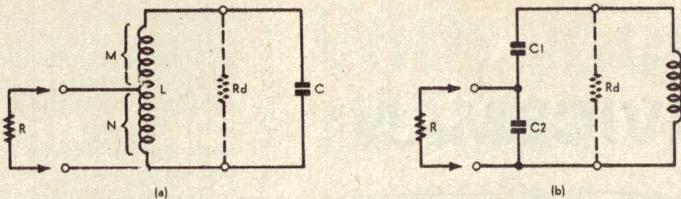

Figure 3: A comparison of the (a) inductive, and (b) capacitive tapping methods.
Probably the reader will be more familiar with the tapped inductor method of transforming impedance, as shown in figure 3(a). This method is frequently used where a relatively low impedance circuit has to be coupled into the resonant circuit without causing it undue disturbance or damping its resonance behaviour. The position of the tap on the inductor is chosen to provide the desired impedance step-up ratio. The lower the position of the tap, the greater the extent to which the impedance of the circuit connected to the terminals is stepped up, as far as the resonant circuit is concerned.
It turns out that the impedance transforming ratio obtained with the capacitive divider system follows a similar "squares" relationship to that obtained with the inductive divider. Thus in figure 3(b), the effective resistance R_d connected across the resonant circuit is related to the actual resistance R connected across the terminals by the equation:
capacitive divider works in both directions. It can step down impedance as well as stepping it up. Thus if an actual resistance R_d were to be connected right across the inductor L in figure 3(b), instead of a resistance R across the terminals, then the action of the capacitive divider would be such that a circuit connected to the terminals would "see" an effective input resistance of value R . In other words we can quite validly rearrange equation (2) to read:
across C_2 of figure 3(b), not only does an effective resistance of value R_p appear across capacitor C_1 .